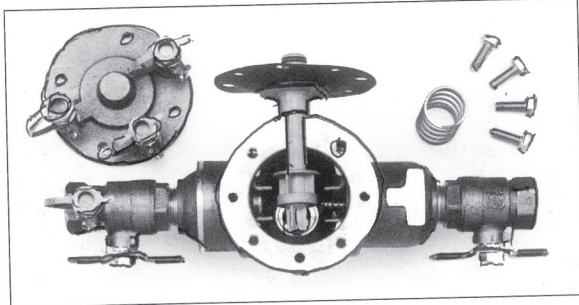
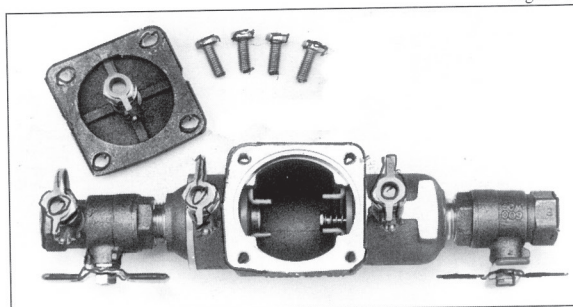

Figure 1
Figure 1a
2. Next use a wrench or socket to take the bolts out of top cover. After taking the cover off carefully inspect diaphragms, seals and seating surfaces for debris or damage. (RPZ Fig. 1 DCV Fig. 1a)
2. Grasp the bottom disc retainer and use a Allen wrench to take the assembly apart. (figure 1)